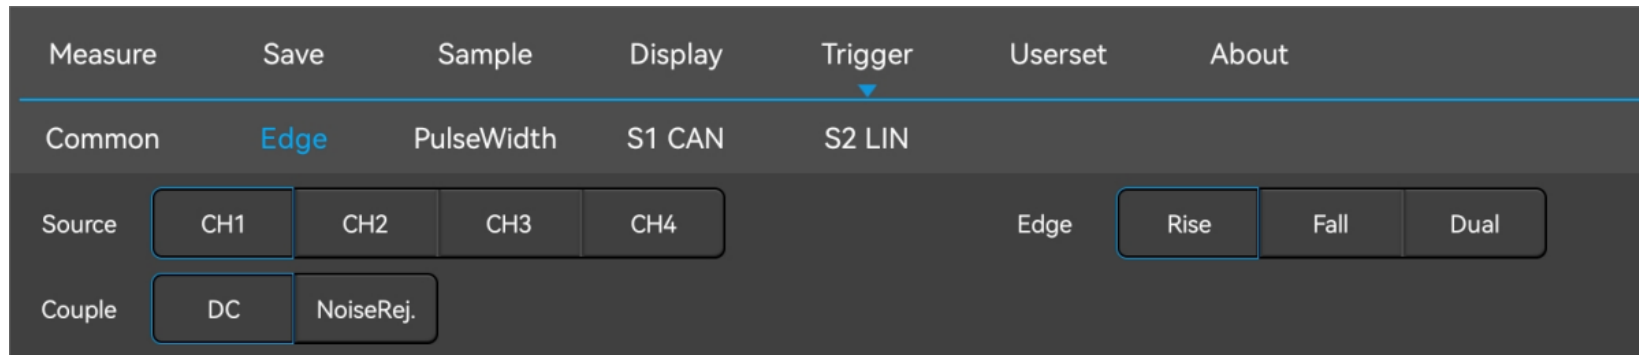

Figure 5-11 Edge Trigger Setting Menu
- 1) Tap “Trigger” on the main menu to open the trigger menu, select edge trigger in the trigger type, and set edge trigger as follows, as shown in Figure 5-11: